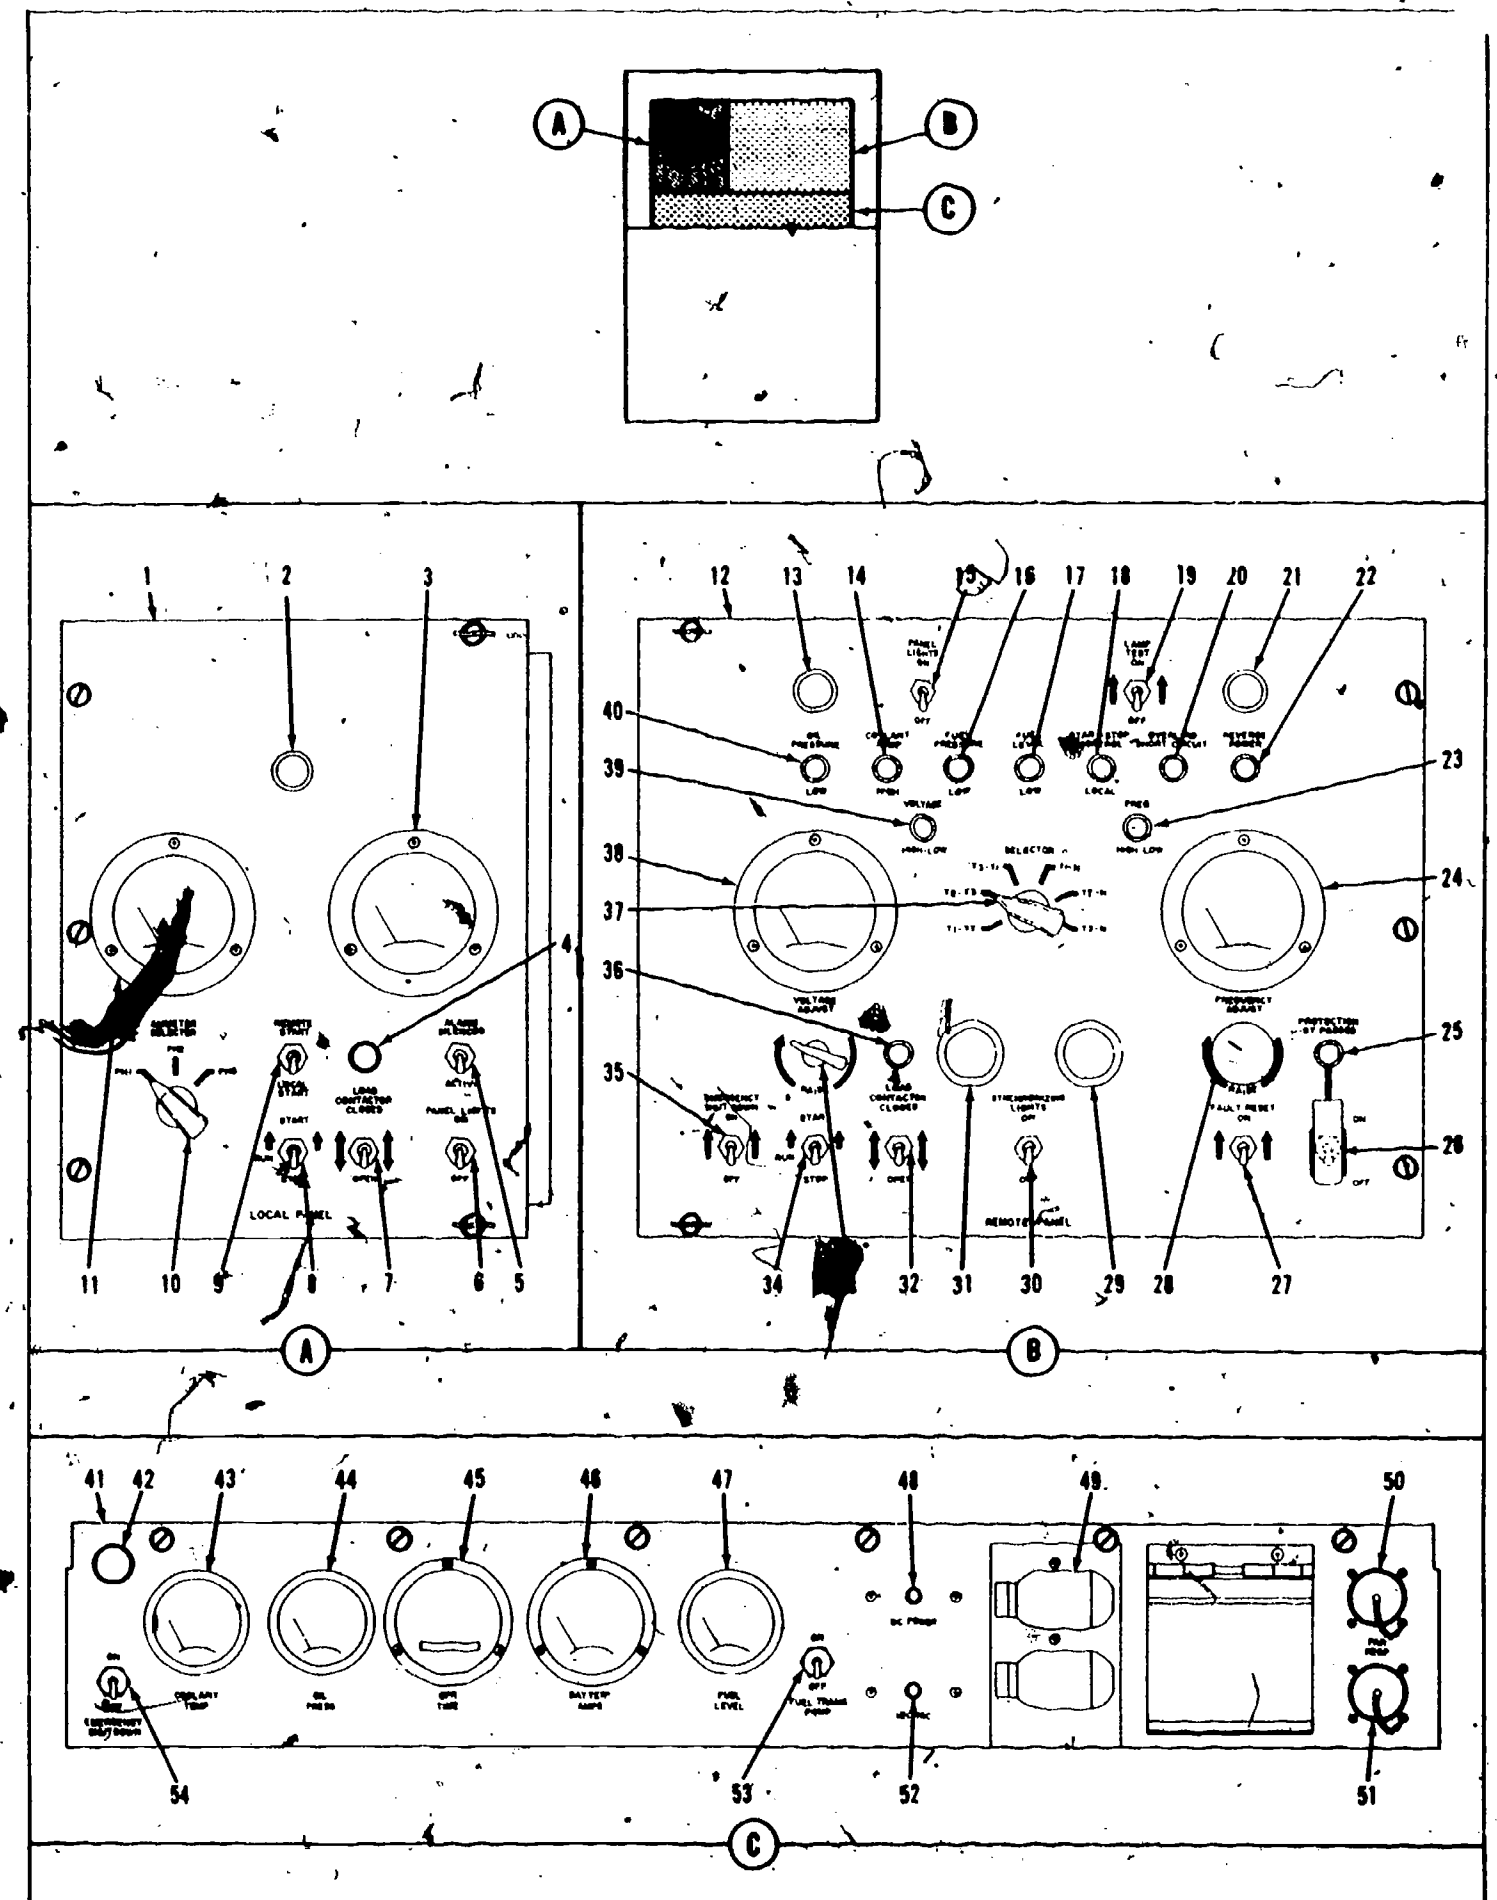

Fig 1-7. Location of controls and indicators.
Local panel starting (numbers in parenthesis refer to figure 1-7). Just a word of caution before the starting procedure is described. Make sure that the frequency and voltage rheostats are turned counterclockwise before starting the generator set, because the engine governor is connected to the circuit and will cause the set to run fast to try and satisfy the demand placed on it by the rheostat. If the rheostat is set too high, the overspeed device will shut the engine down. Now, with this thought in mind, go through the starting procedure. Press in the d.c. circuit breaker button (48). Turn the remote/local start switch to LOCAL START. The local start/stop control indicator light (18) should light up. Turn the start/stop switches (8 and 34) to STOP and make sure all other switches are in the OFF or OPEN position. The fuel transfer pump switch (53) should be in the ON position if an auxiliary fuel supply is being utilized. Turn the frequency and voltage adjustment rheostats (28 and 33) counterclockwise. Turn the lamp test switch (19) to ON and check for illumination or indicator lights. If any fault indicator lights light up, turn the fault reset switch (27) to ON and then return it to the NORMAL position. All fault indicator lights should go out except the local start/stop control indicator light; if not, do not start the generator set.
Remote panel starting (numbers in parenthesis refer to figure 1-7). The same precautions apply to starting the generator set from the remote panel as those applied to starting the generator set from the local panel. In this case however, turn the remote/local start switch (9) to REMOTE START.